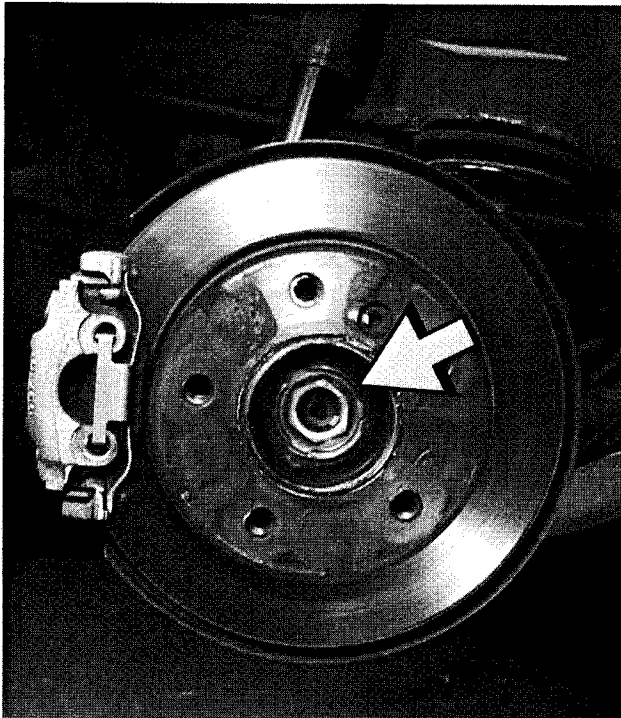

Fig. 11. Drive flange collar nut (arrow).
4. Lower car to ground. With an assistant applying brakes, loosen collar nut. Do not remove completely. See Fig. 11.